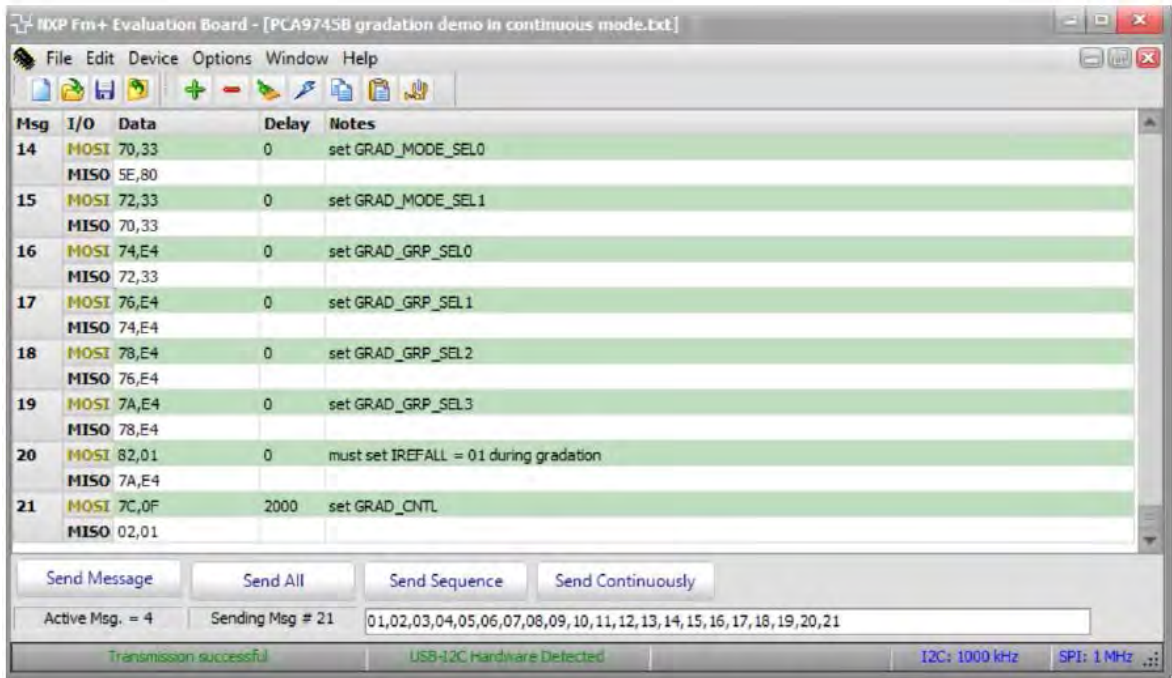

Fig 9. Message data in Expert mode to demo all white and red LEDs for gradation
- 3. After open the “PCA9745B gradation demo in continuous mode” text file, the “NXP Fm+ Board GUI” in Expert mode screen will be displayed as shown in Fig 9.
- 5. User can program the MOSI (Master Out Slave In) Data to PCA9745B, the first 7-bit is to access the address of register and 8th bit to indicate Read (1) or Write (0), the next byte is data to read or write.